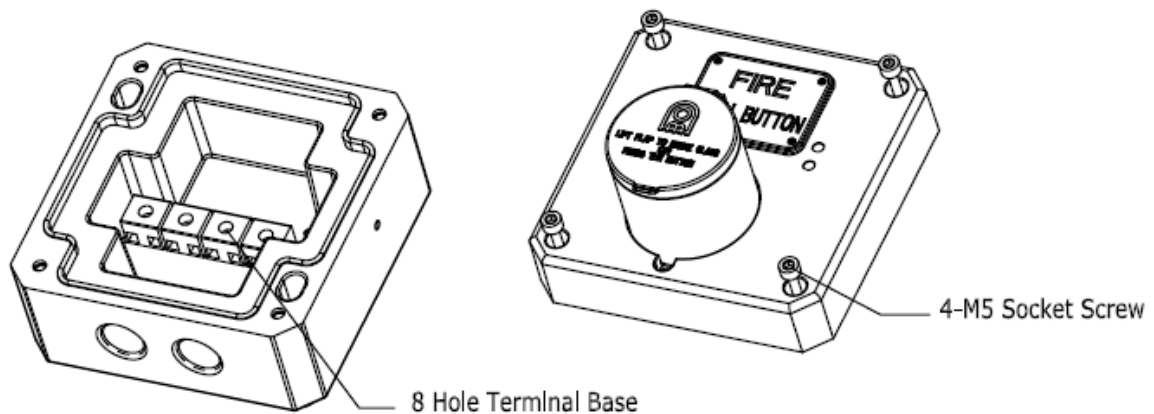

Fig. 2
The cable connection is connected with the 8-hole terminal blocks marked T1-T8 located in the flameproof enclosure (See Fig 2). Cable connection should be carried out in accordance with relevant technical requirement.
Unscrew the four (4) M5 retained hex socket head screws. This will release the cover from the base and allow the cover to hang on the retaining wire strap. Before replacing the cover, check that the flameproof joints are clean and not damaged, the gasket is still retained in its groove. (See Fig 2)